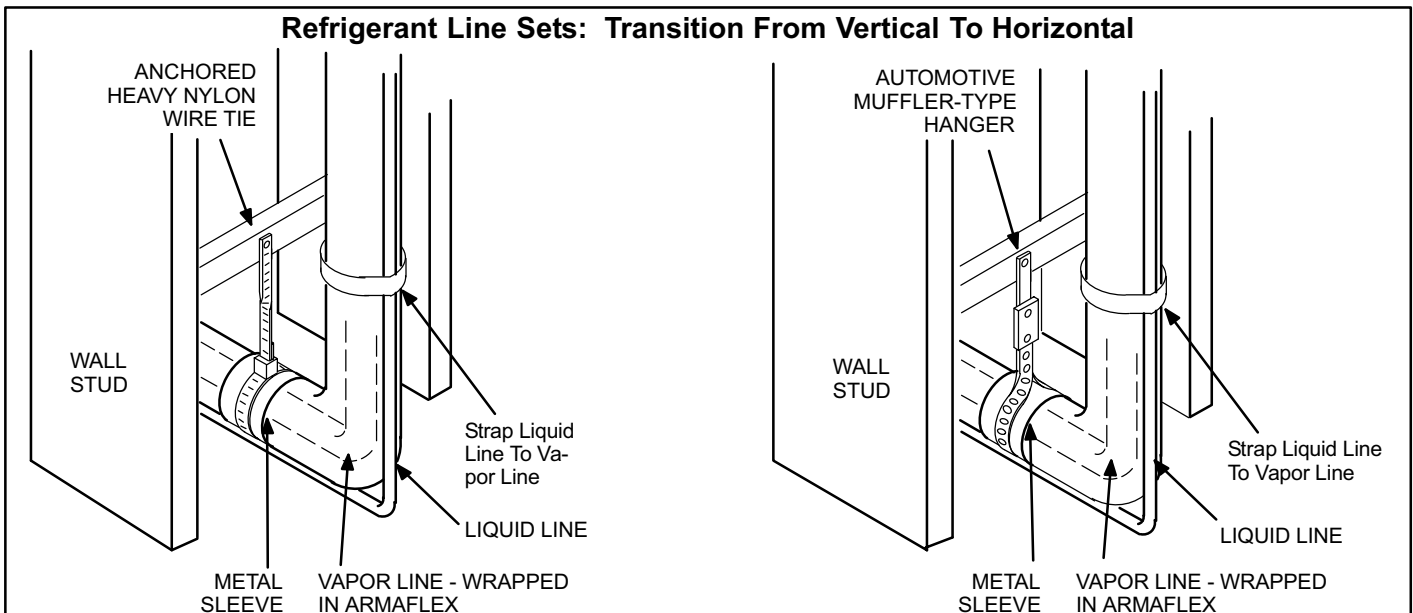
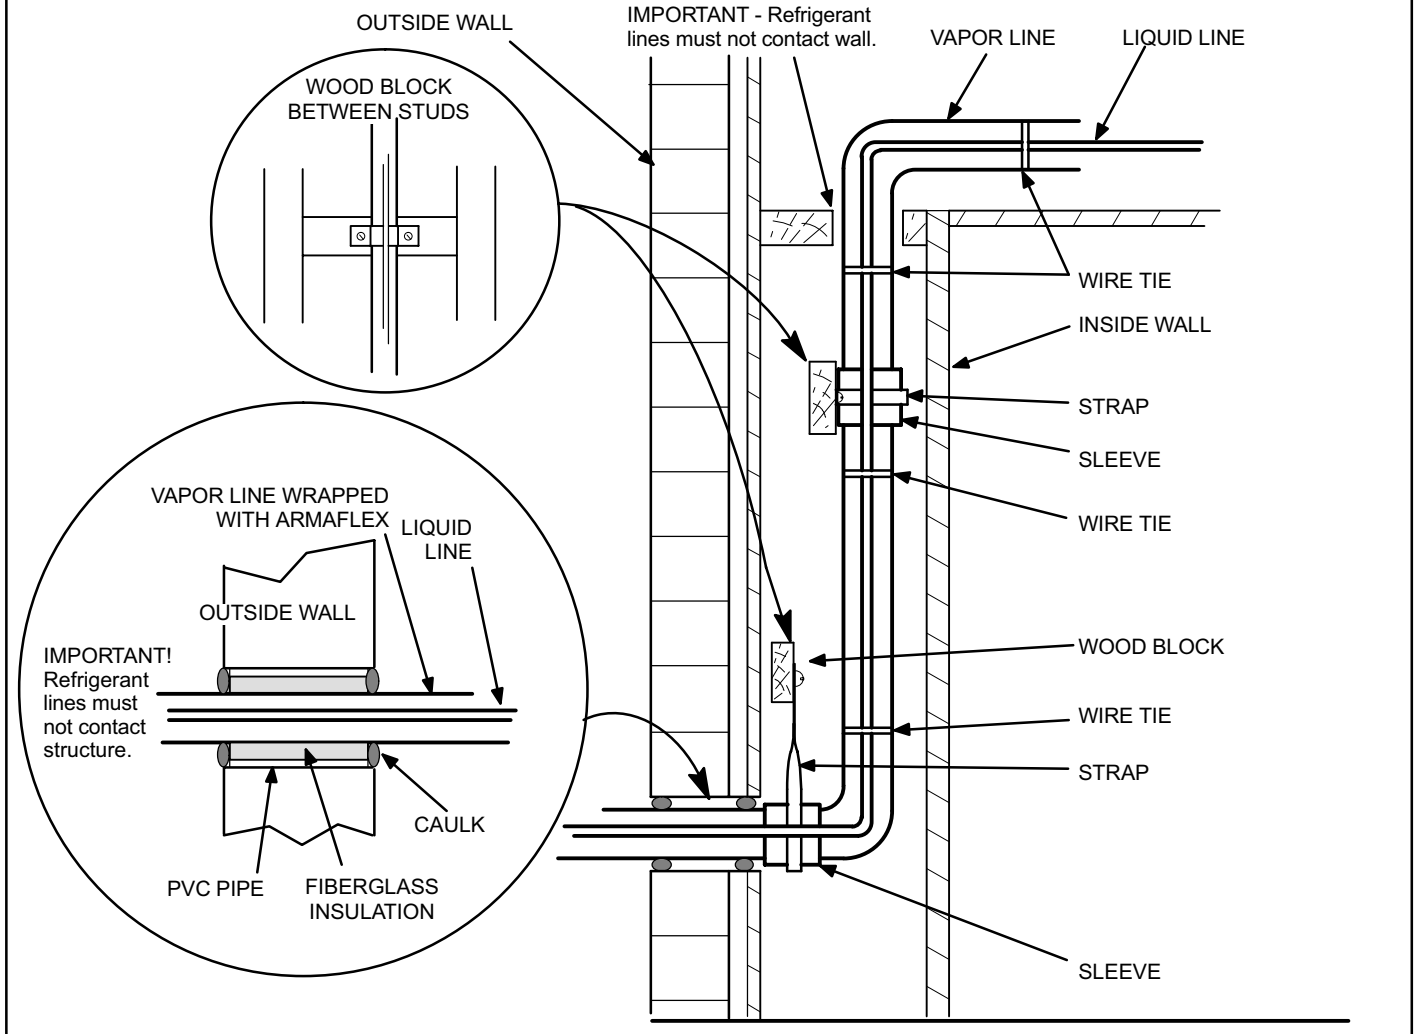
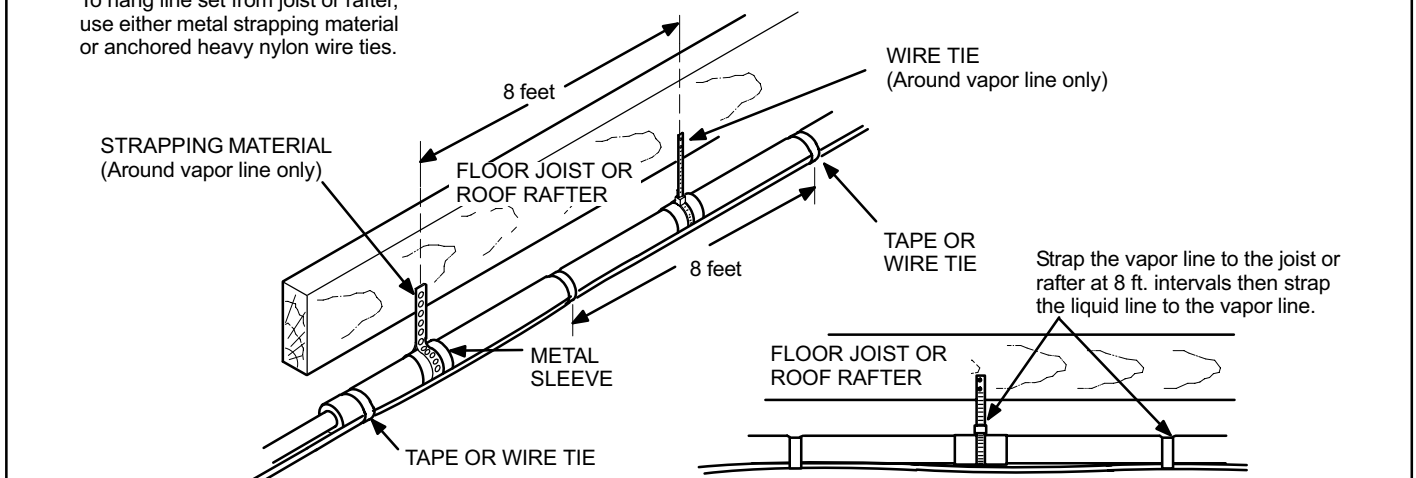

Figure 10
Figure 11
Figure 12
- 2. Line Set Isolation**—The following illustrations demonstrate procedures which ensure proper refrigerant line set isolation. Figure 10 shows how to make a transition from horizontal to vertical. Figure 11 shows how to install line sets on vertical runs. Figure 12 shows how to install line sets on horizontal runs.